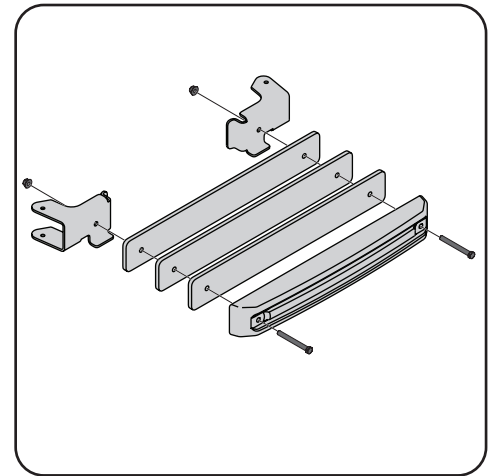

Figure 4-24
2. Attach the weight and three weight plates to the weight hanger brackets with two 3/8" Hex head capscrews (710-3085) and two nuts (712-04065) as shown in Figure 4-24.